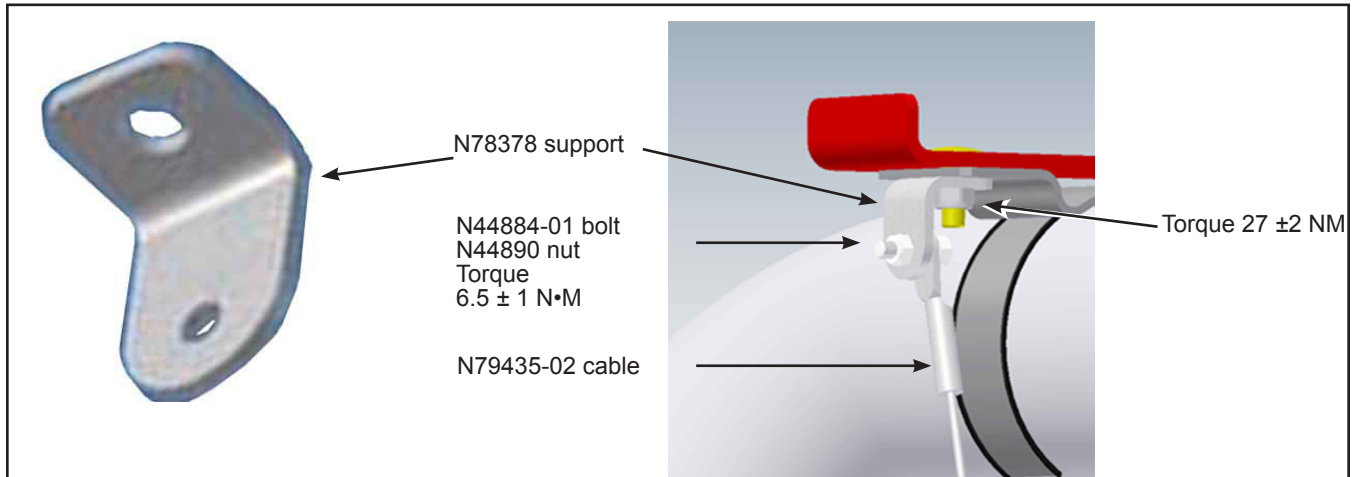

Figure 2 - Upper Support Installation
- 1.3. Install the N78378 support on the cooler air intake hose's front bolt support. See Figures 2 and 4.